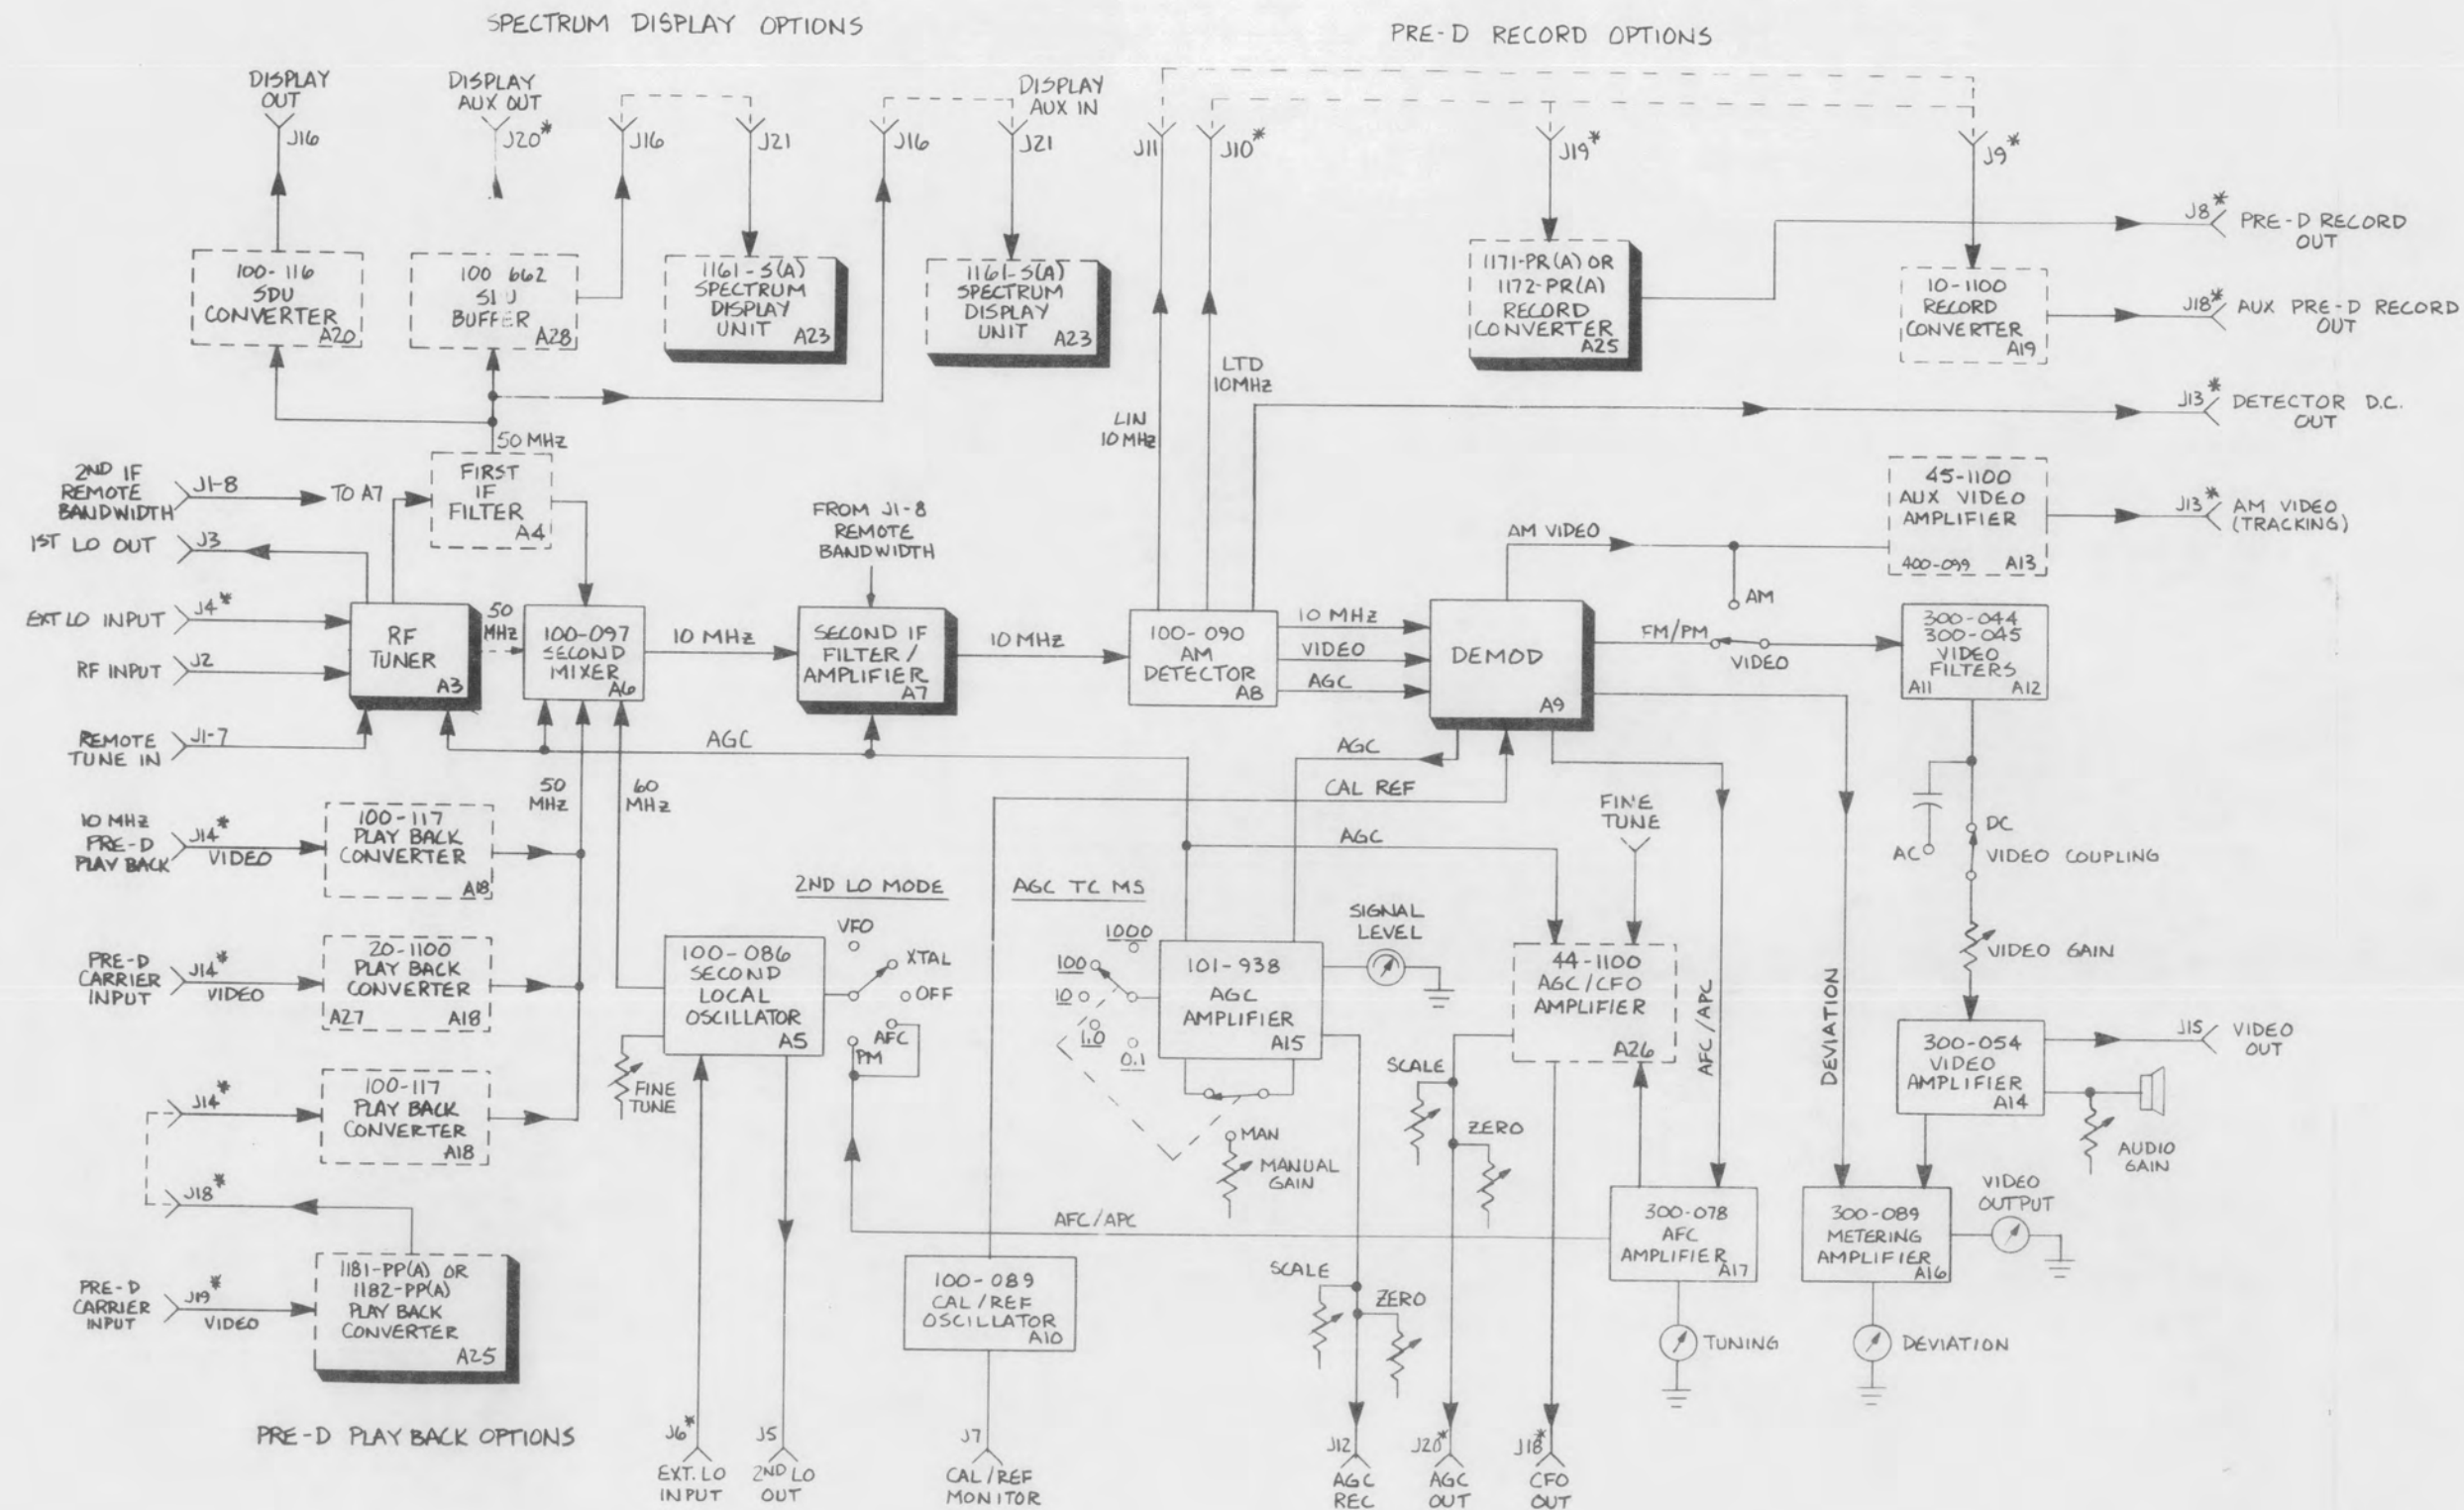

Figure 4-1. 1100-AR Block Diagram (403-406)
This section discusses the theory of operation for the 1100-AR receiver on a system level only. The theory of operation is based on the block diagram shown in Figure 4-1 and is divided into the various signal paths. In addition, descriptions of the various control circuits are discussed separately and are supplied by the necessary block diagrams.
The normal signal path of the 1100-AR consists of the circuits which accept and process the RF signal. See Figure 4-1.
The 10 MHz predetection record signal can be processed using either of two methods in the 1100-AR and by one method in the 1100-AR(5) to obtain a video carrier signal suitable for recording. As shown in the receiver block diagram (Figure 4-1), both receiver configurations can be equipped with the 10-1100 series record converters.
As shown by the block diagram in Figure 4-1, three methods of playback up conversion are available depending on the receiver configuration.